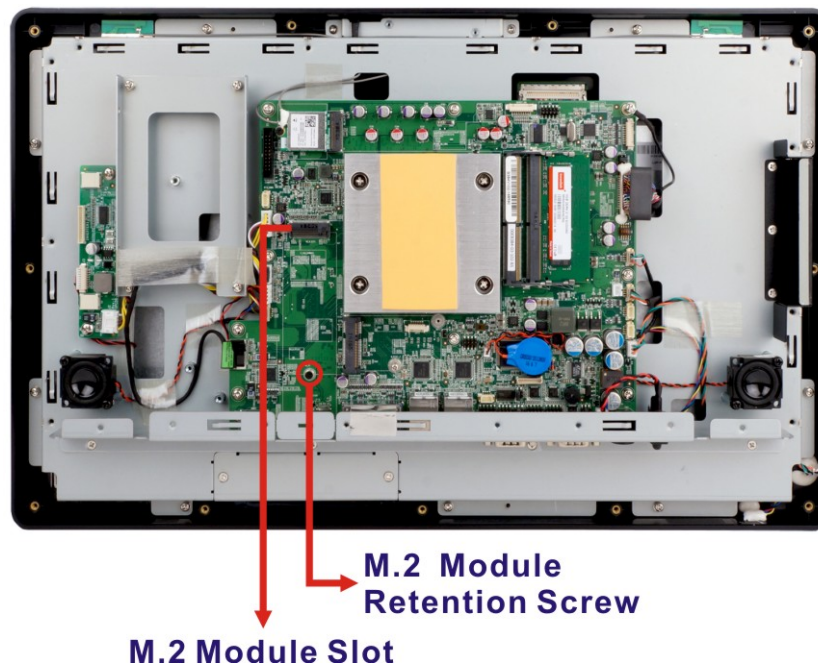

Figure 3-8: M.2 Module Slot Location
Step 2: Locate the M.2 slot. Remove the preinstalled retention screw on the motherboard as shown in **Figure 3-8**.